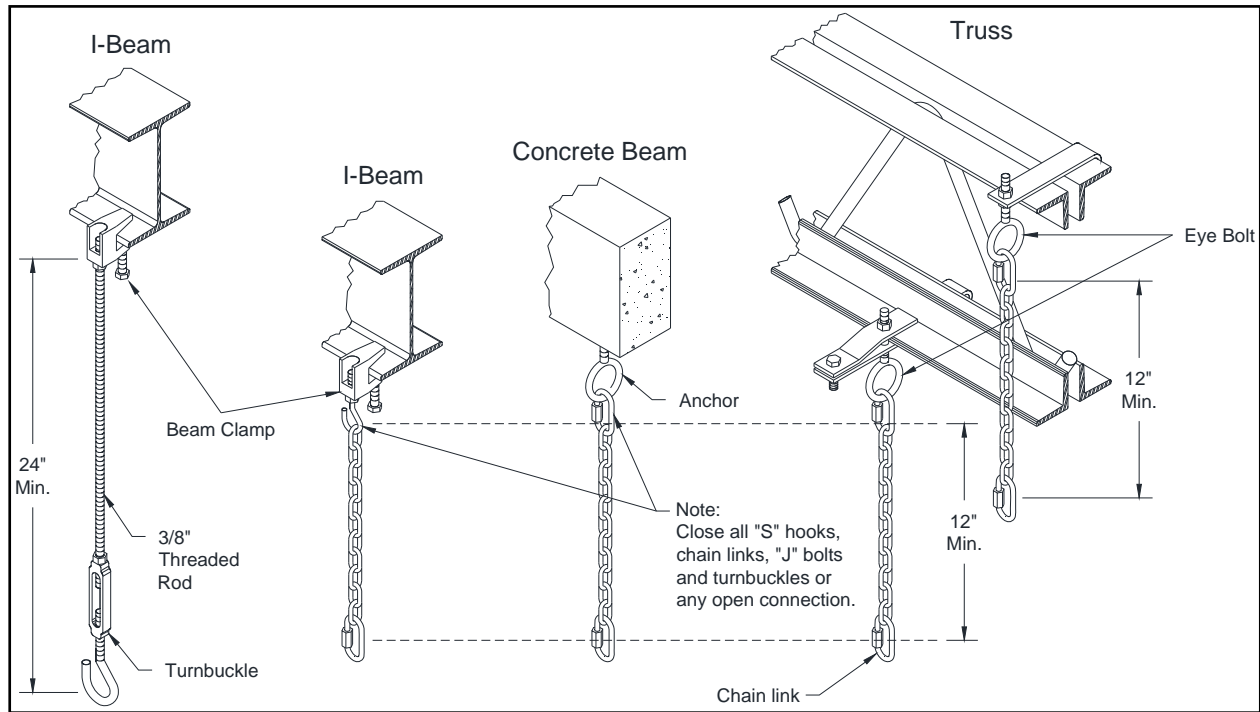
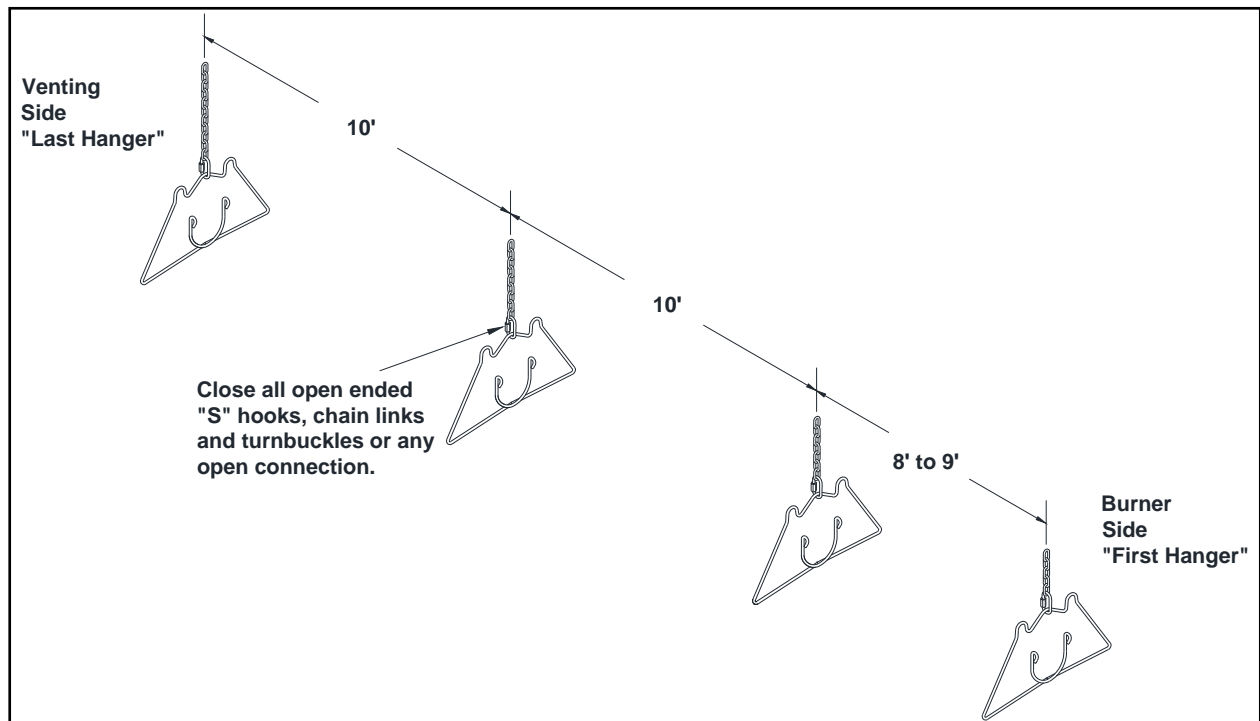

Figure 5: Suspension Mechanism
Figure 6: Hanging Points
- Suspension mechanism must allow for lateral tubing expansion. A minimum 12" length welded link chain with a working load limit of at least 200 lbs. is recommended (refer to Figure 5 for more details). **SRP recommends and make available "quick links" for connecting chain. If any open ended "S" hooks and turnbuckles are used, the open ends must be closed to avoid unhooking chain with inadvertent contact.**
- Locate hanging chain at predetermined suspension points in the structure. **It is required that the first 2 hangers** be about 8' to 9' away. Thereafter, 10' apart on average is acceptable for the remainder of the heat exchanger. At no time should hangers be more than 12' apart, (see Figure 6).
- Install the tube and reflector support hanger on the chain with “S-hooks” refer to Figure 5 & Figure 6.